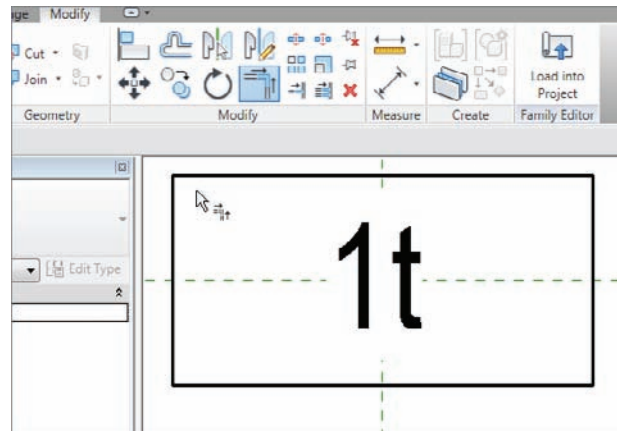

FIGURE 11.84 Creating the box
6. Offset the vertical reference plane to the left and to the right 1/8" (3mm), as shown in Figure 11.84.
8. Trim the four corners so your screen resembles Figure 11.84.